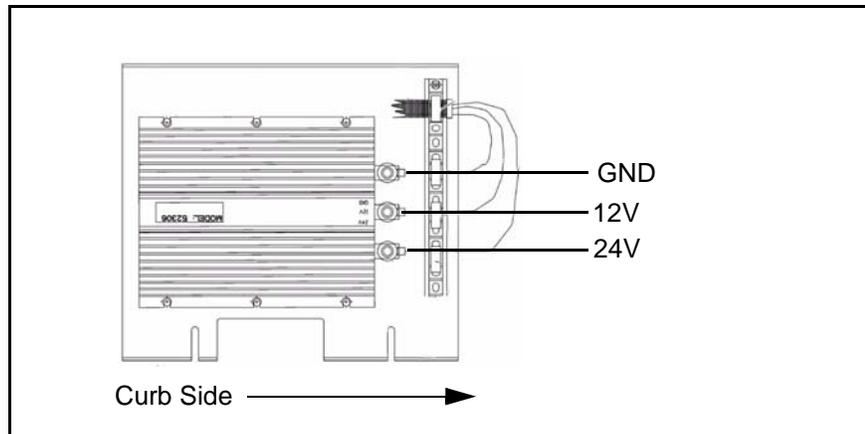

Figure 1-11 Orion NG Sure Power Equalizer Cable Configuration
3. Install equalizer connections to the referenced marked positions and torque to 100 in.lbs (12.4 NM). **See Figure 1-11**